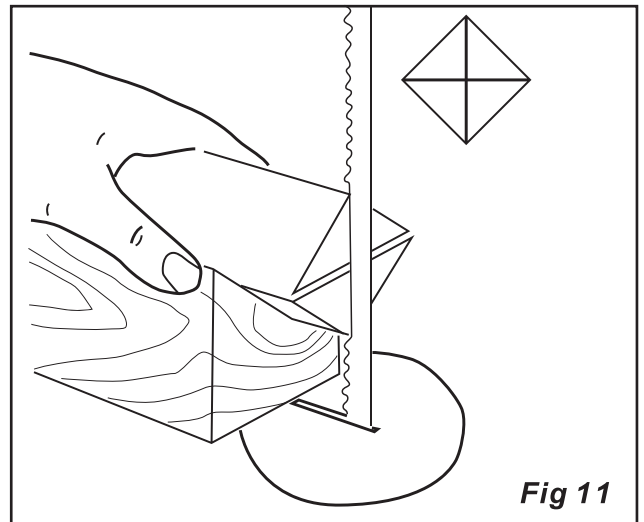

Fig 11
1. With a ruler locate and mark the center on each end by going corner to corner, see Figure 11. Accuracy is not critical on full rounds but extremely important on stock where square sections are to remain. Put a dimple in each end of the stock with an awl, or nail.
2. Extremely hard woods may require kerfs cut into the spur drive end of stock, see Figure 11. You may need to drive the spur center into the stock with a wood mallet. **Note:** Never drive stock onto spur while it is mounted in the lathe spindle.